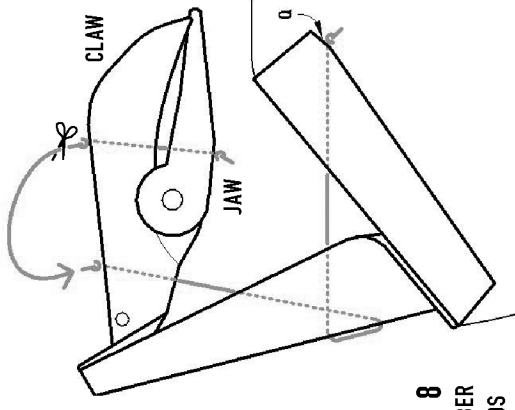

Fig. 8
- 14) Use the wire (or yarn needle) to thread the rubber band through the hole in the jaw and into the hole in the claw (see Fig. 8). Stretch the rubber band and tie it off at the other end with enough tension to cause the claw to snap shut when opened and released. After testing the tension, cut the rubber band, leaving only a short tail.
- 15) Tie a knot in the end of the remaining piece of rubber band. Thread through the claw and arm (see Fig. 8).